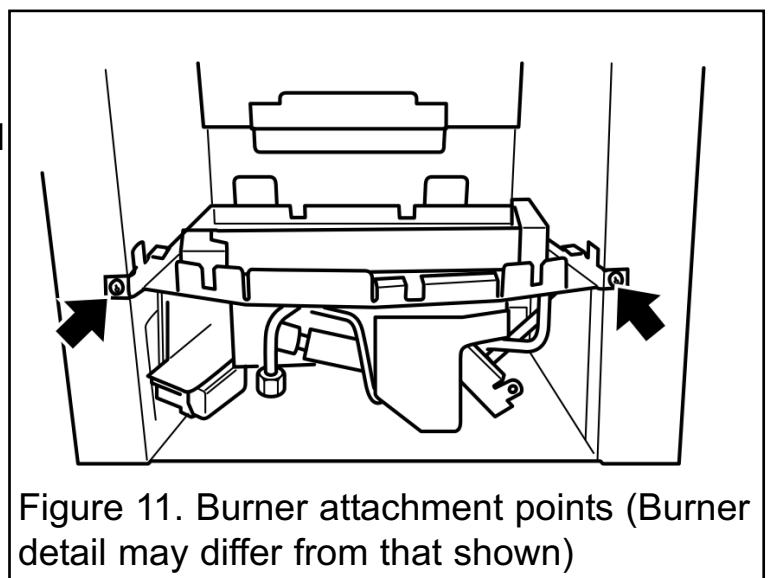

Figure 11. Burner attachment points (Burner detail may differ from that shown)
2. Detach the burner unit from the hotbox by removing two screws (See figure 11). Lift the burner unit clear.